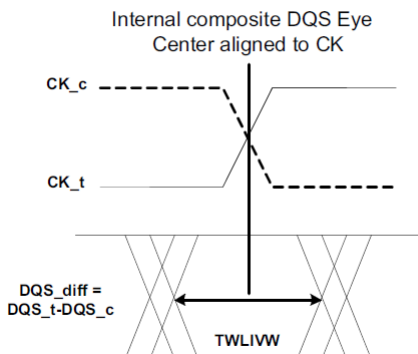

Figure 25. DQS_t/DQS_c to CK_t/CK_c timings at the DRAM pins referenced from the internal latch
- 28) t_{WLIVW} is defined in a similar manner to t_{dIVW_Total} , except that here it is a DQS input valid window with respect to CK. This would need to account for all VT (voltage and temperature) drift terms between CK and DQS within the DRAM that affect the write-leveling input valid window. The DQS input mask for timing with respect to CK is shown in Figure 25. The "total" mask (TWLIW) defines the time the input signal must not encroach in order for the DQS input to be successfully captured by CK with a BER of lower than tbd. The mask is a receiver property and it is not the valid data-eye.